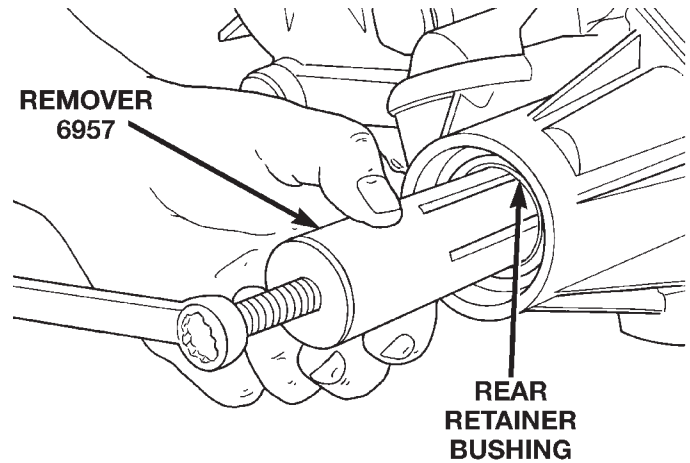

Fig. 11 Rear Retainer Bushing Removal
(1) Raise vehicle on hoist.
(2) Remove rear propeller shaft. Refer to Group 3, Differential and Driveline, for proper procedure.
(3) Using a suitable pry tool or slide-hammer mounted screw, remove the rear retainer seal.
(4) Using Remover 6957, remove bushing from rear retainer (Fig. 11).